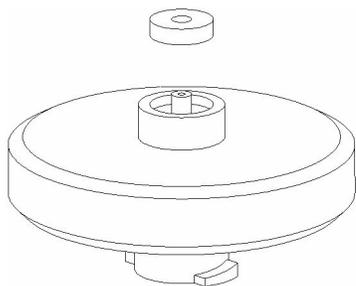

Figure 13 Syringe Adapter with disassembled Silicone Gasket
- 2 Pull out the old gasket with your fingers or with the help of a needle. See Figure 13, “Syringe Adapter with disassembled Silicone Gasket” for a disassembled adapter.